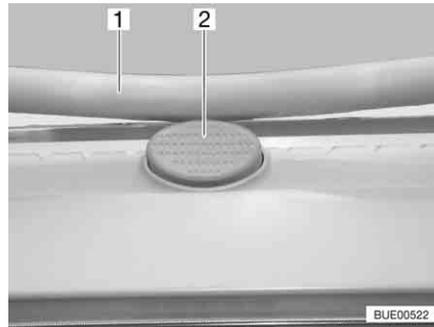

Fig. 125 Safety knob on the Heki skylight
- Press the safety knob (Fig. 125,2) and pull the bar (Fig. 125,1) down with both hands.
- Push the bar upwards with both hands until it is above the safety knob (Fig. 125,2).